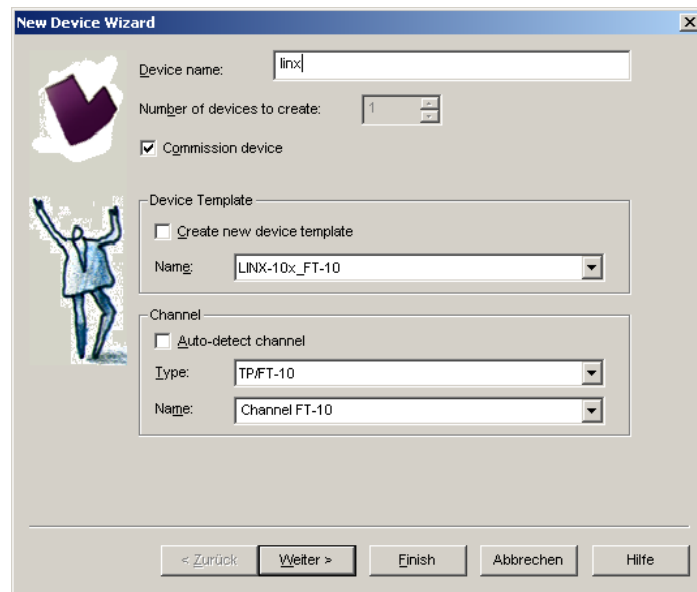

Figure 156: Create a new device in the drawing.
1. In your LonMaker drawing, drag a device stencil into the drawing. Enter an appropriate name as shown in Figure 156.